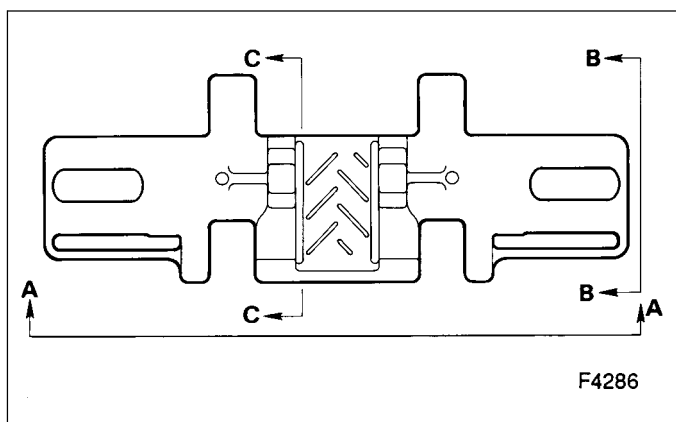
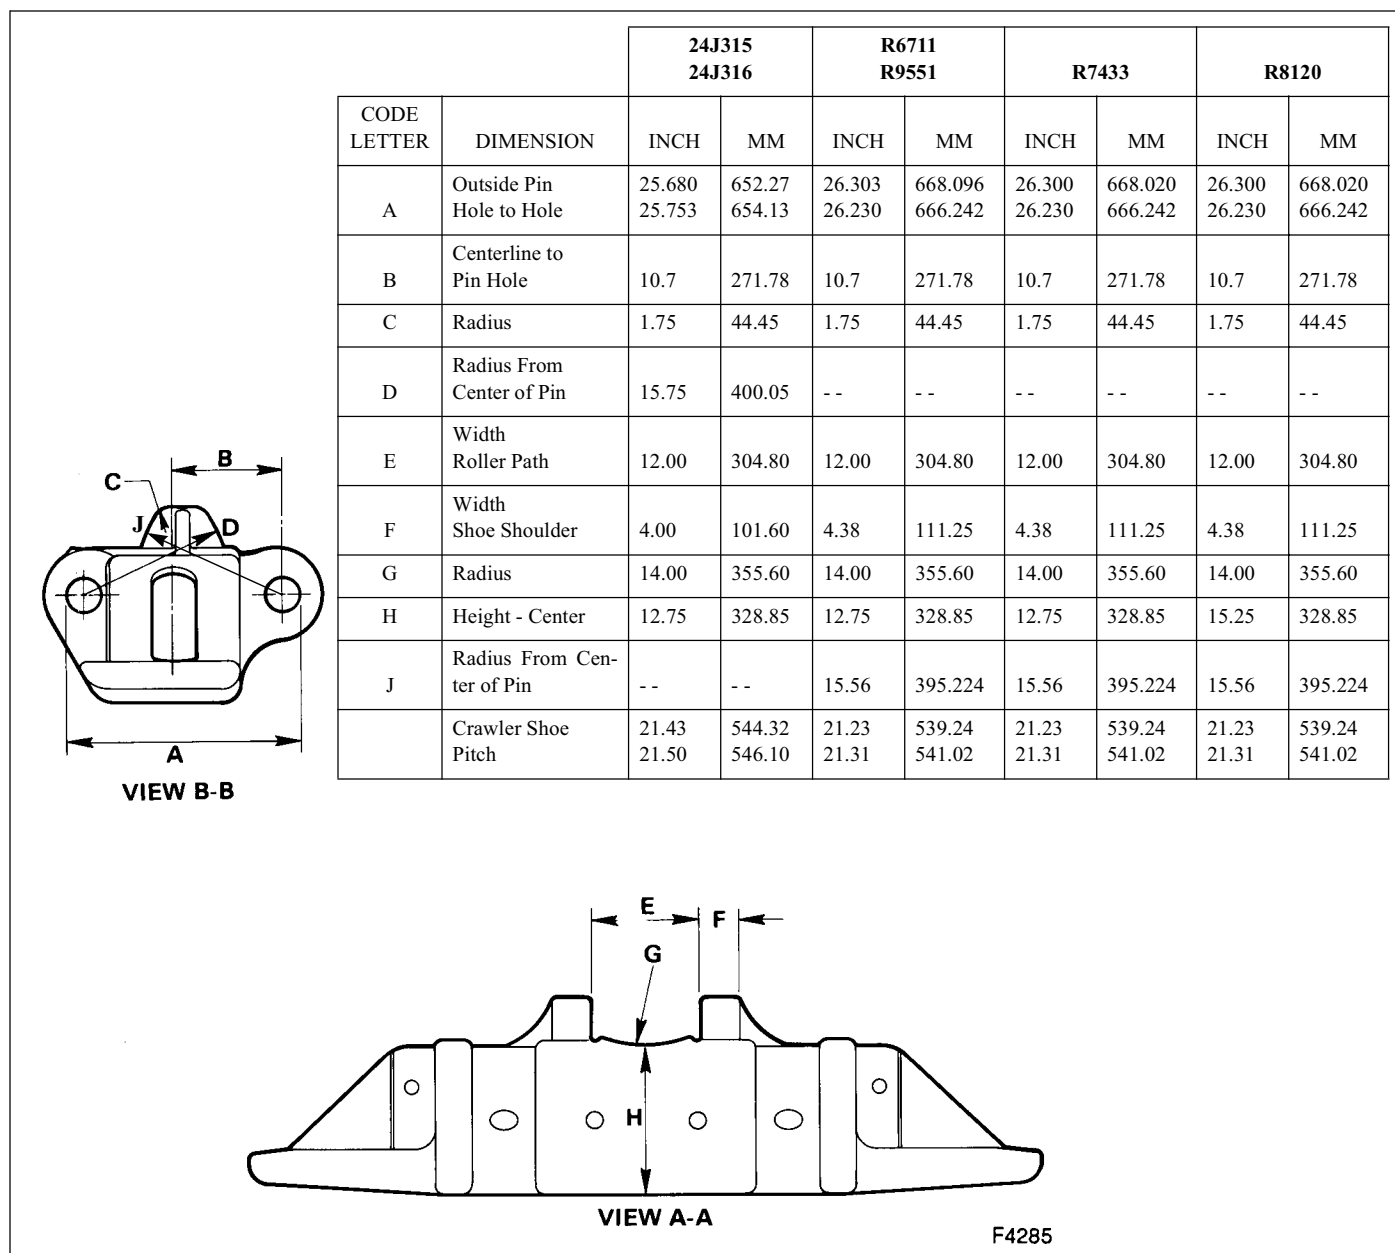
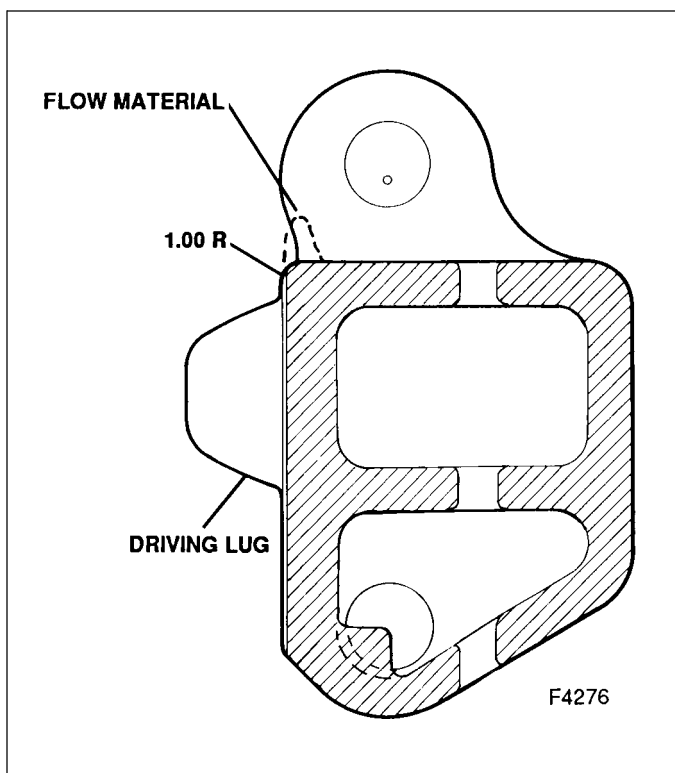

Figure 7-24. Crawler Shoe Sections
Figure 7-25. Crawler Shoe Build-Up
Figure 7-26. Crawler Shoe Trimming
Repair the crawler shoes as follows: Refer to Figure 7-24, Figure 7-25, and Figure 7-26.
The dimensions shown in Figure 7-24, Figure 7-25, and Figure 7-26 are the same as those of new shoes. If all crawler shoes are built up to these dimensions, a new drive tumbler or a tumbler built up to new tumbler dimensions must be used.
If any crawler shoe drive lugs are built up, the crawler shoe pitch is affected. If any new crawler shoes or old shoes with drive lugs built up to the dimensions in Figure 7-25 are used, they should be spread out in the crawler belt to minimize pitch variation problems.
2. Clean the crawler belt shoes of all spalled, loose material, contaminants, and grind excess metal flow (see Figure 7-26).
TRIMMING EXCESS METAL FLOW. To trim excess material from crawler shoes proceed as follows (see Figure 7-26):